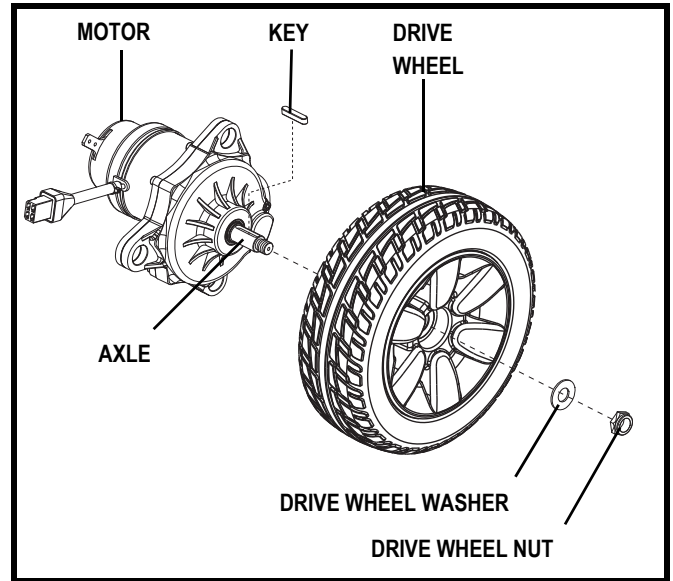

Figure 20. Jazzy Series Drive Wheel Removal
4. Remove the drive wheel nut and washer from the axle. See **figure 20**.
8. Reinstall the drive wheel nut and washer onto the axle and tighten. See **figure 20**.